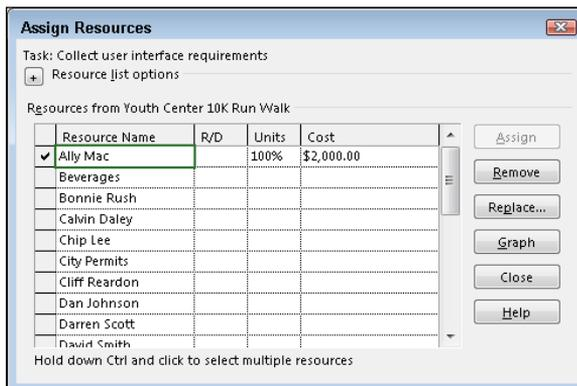

Figure 17-9:
- ✓ **Use less-expensive materials:** Change the unit price of material resources you've created in Resource Sheet view. Or shop around for better pricing on items that are set up as cost resources, and enter the lower prices of tasks to which you've assigned those resources by using the Cost column in the Assign Resources dialog box, as shown in Figure 17-9. To get to the Assign Resources dialog box, right-click a task or a resource. From the right-click drop-down menu choose Assign Resources.